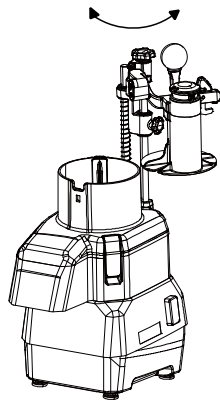

Fig.11
**4.4.3.10** Model GEA4, turn the arm anticlockwise and clockwise to check whether the machine is in good condition. as shown in Figure 11.